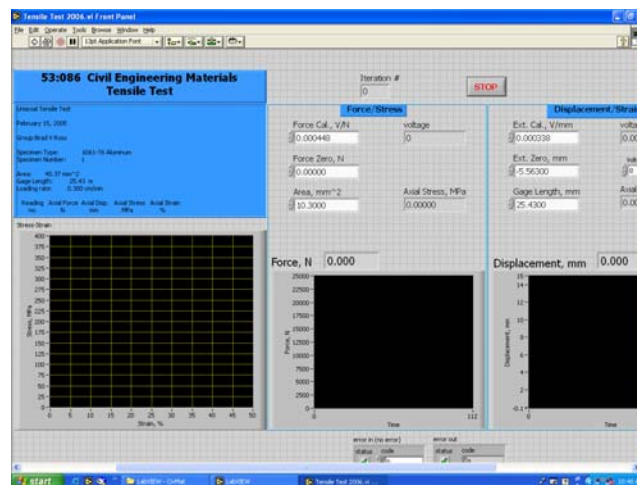

Figure 1.1.3. Screenshot of program.
- Type initial data into the tensile test program (figure 1.1.3). Click Run.